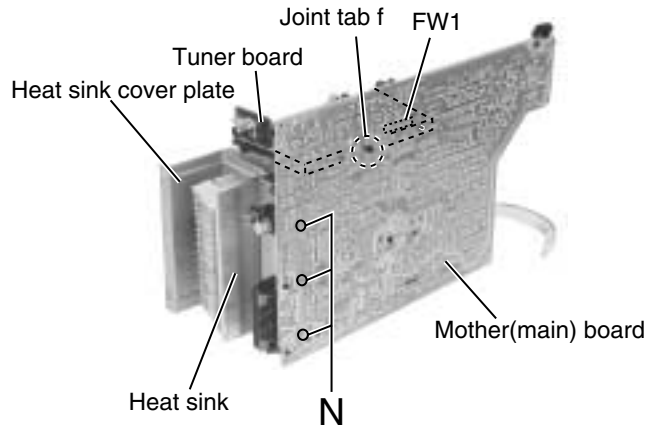

Fig.18
(See Fig. 18 to 20)
- 1. Release the joint tab f of the tuner board holder and the mother(main) board, and disconnect connector FW1 connected to the mother(main) board. Remove the tuner board assembly (Refer to Fig.18).